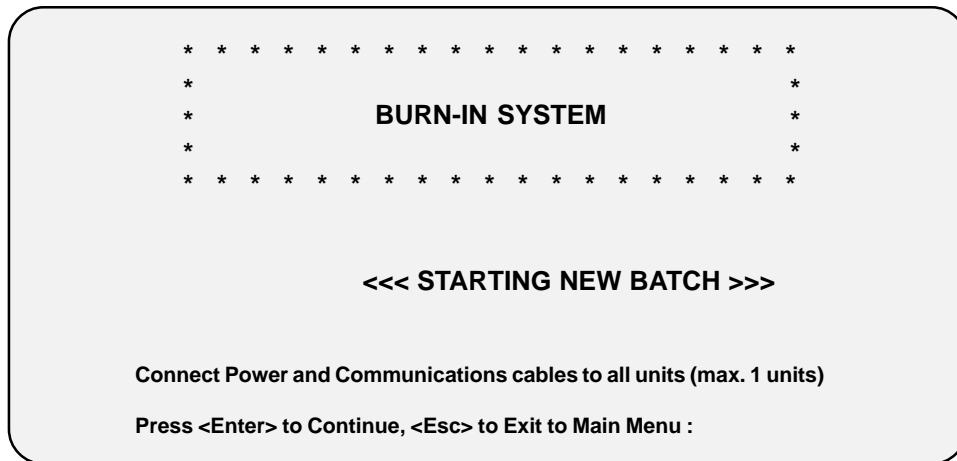

Figure 15. Starting new batch
2. Once the burn-in system **Starting New Batch** menu appears on the screen (Figure 15), press the **Esc** key.